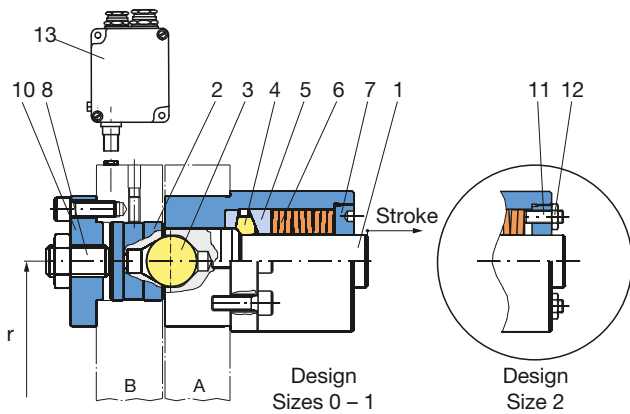

Fig. 1: EAS[®]-element engaged
- r = Pitch circle radius onto which the elements are mounted in [m] (see Fig. 1)